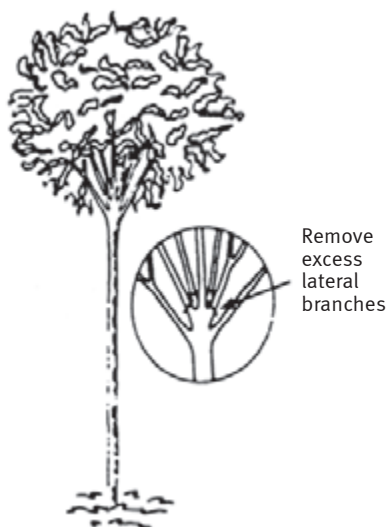

Figure 16. Pruning action where there are multiple lateral branches at a node, none of which is a dominant leader
4. Where there are multiple lateral branches at any one node, remove all but the two or three strongest lateral branches, remembering to maintain the central leader as well. Where the tree terminates in a rosette of multiple shoots, none of which is a dominant central leader, follow the same principle, removing all but the two or three strongest lateral branches and the most upright branch to continue as the central leader (Figure 16). Where possible, retain branches facing the direction of the main prevailing winds (southeast in southern Queensland and northern New South Wales). However, remember that the tree needs to be kept balanced with relatively symmetrical branch growth.